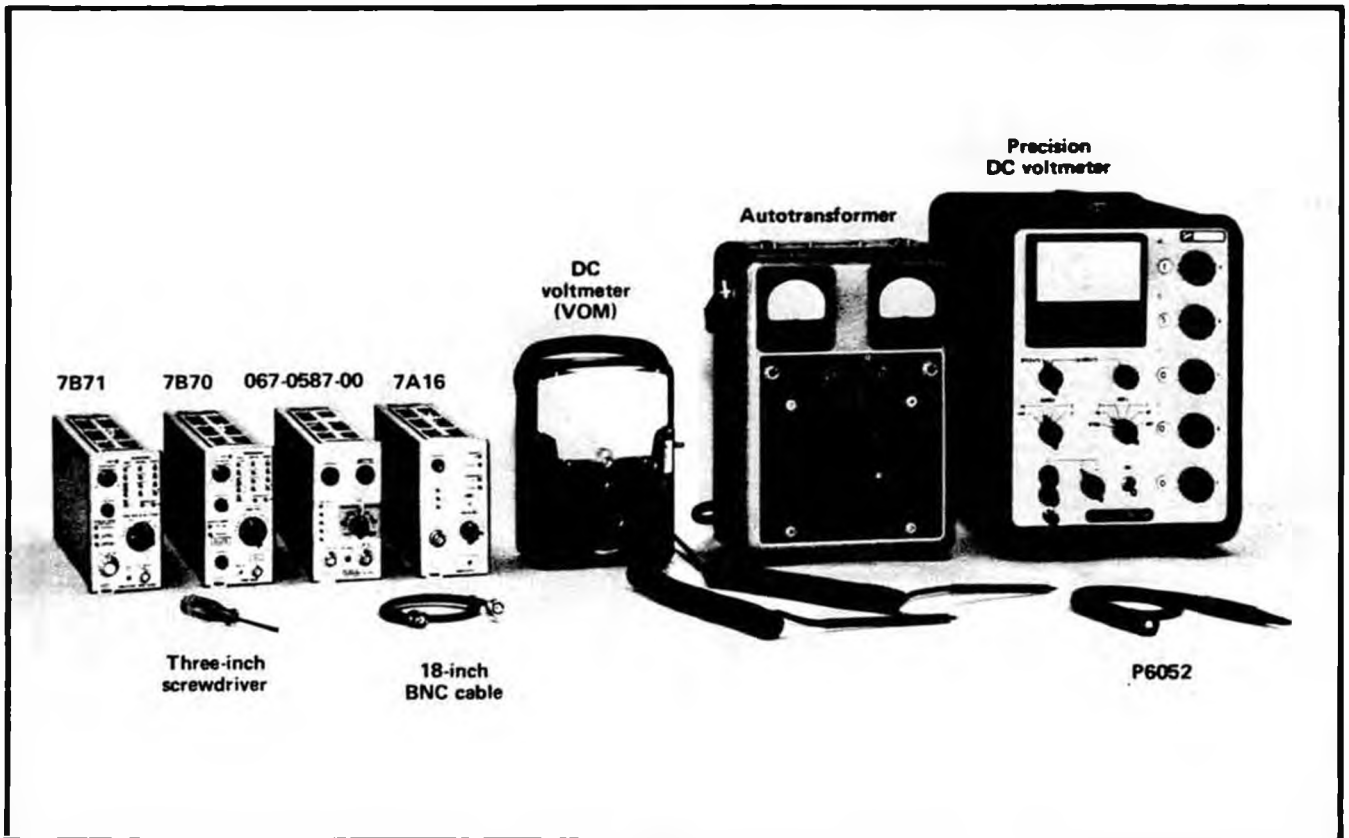

Fig. 5-1. Test equipment required for steps 1 through 11.
a. Test equipment required for steps 1 through 11 is shown in Fig. 5-1.